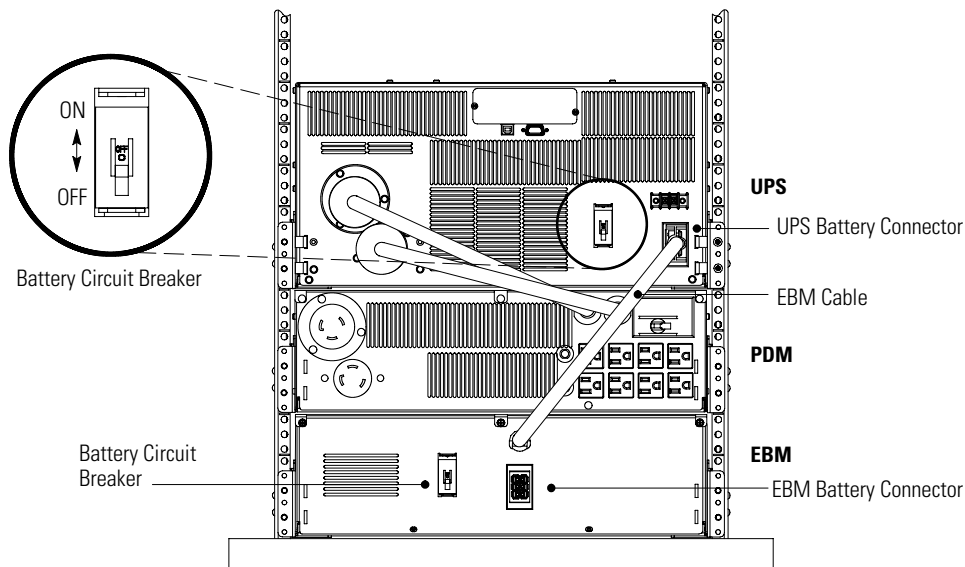

Figure 6. Typical UPS Installation with EBM and PDM
1. Verify that the battery circuit breaker on the UPS rear panel is in the OFF position (see Figure 6 on page 18).
1. Verify that all battery circuit breakers are in the OFF (O) position (see Figure 6).